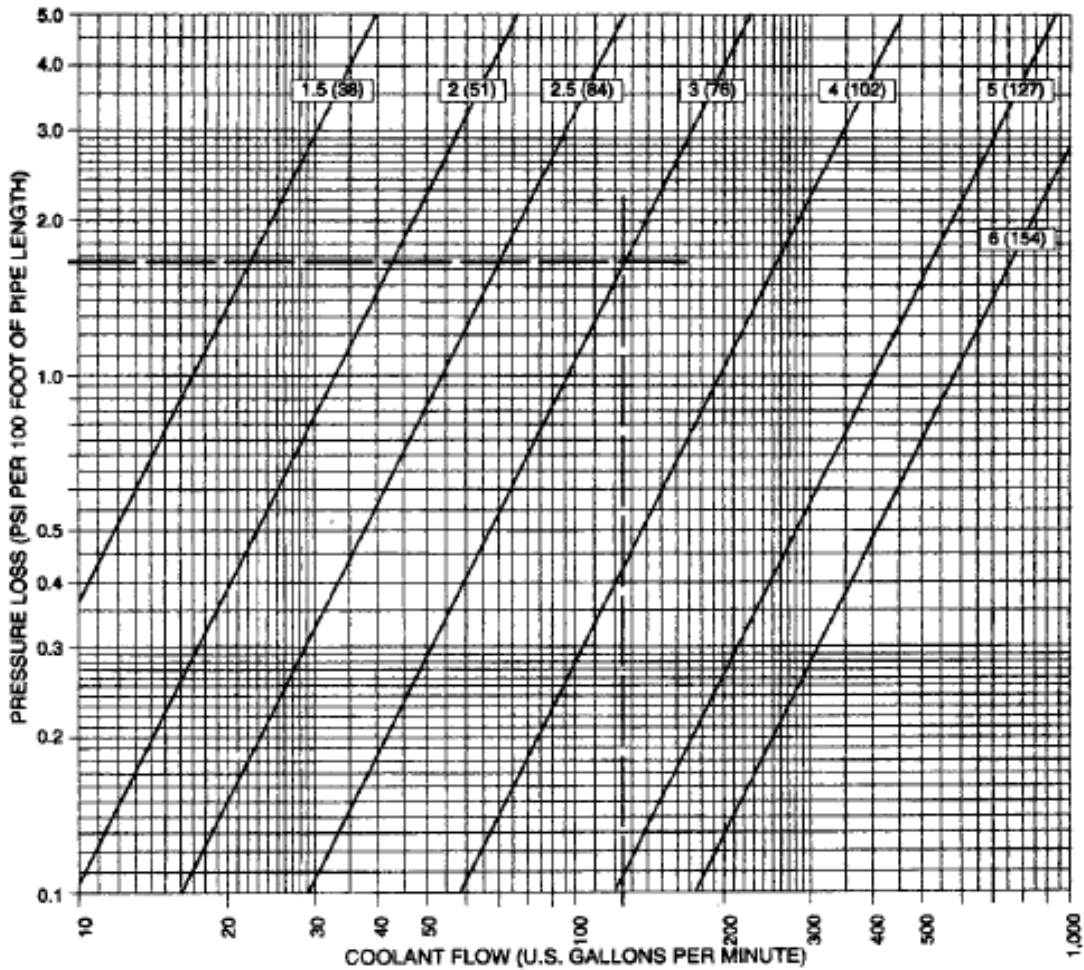

FIGURE 30. FRICTIONAL PRESSURE LOSSES FOR INCH (mm) DIAMETER PIPES
3. Find the backpressure at the given flow per unit length of pipe for the nominal pipe diameter used in the system. In this example, 3 inch nominal pipe is used. Following the dashed lines in Figure 30, 3 inch pipe causes a pressure loss of approximately 1.65 psi per 100 foot of pipe.